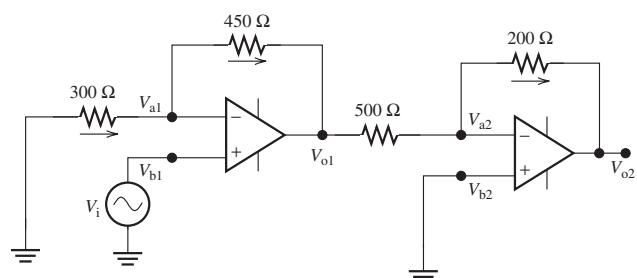

FIGURE P8.74 Circuit for Problem 8.74.
8.74 (H) The input voltage of the circuit shown in Figure P8.74 is 20 V. Determine the output voltage of both op amps, V_{o1} and V_{o2} .